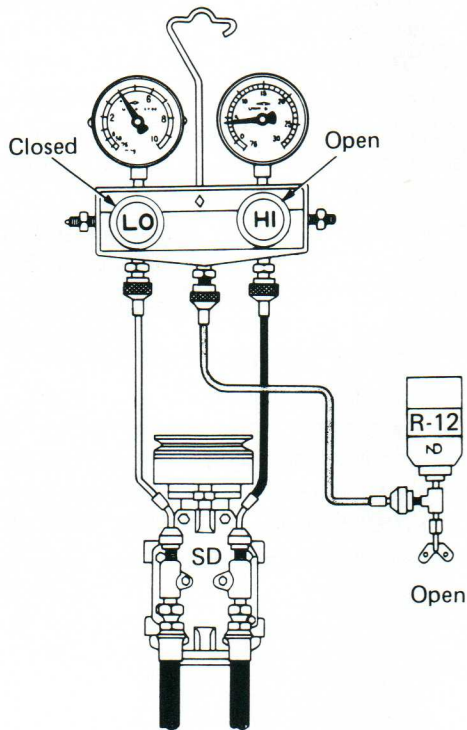

Figure 224-1
5. Open high-side hand valve, turn R-12 can upside-down (Figure 224-1). CAUTION: Keep low-side hand valve closed and DO NOT RUN ENGINE. (Compressor will force refrigerant back into drum and may cause it to explode.) System holds about 2 pounds, or two small cans.